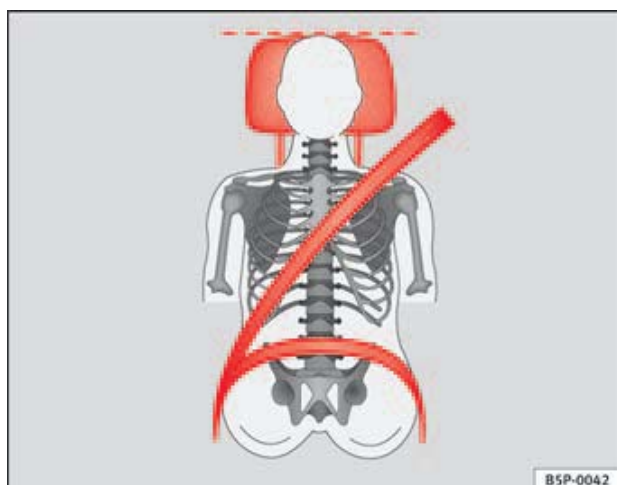
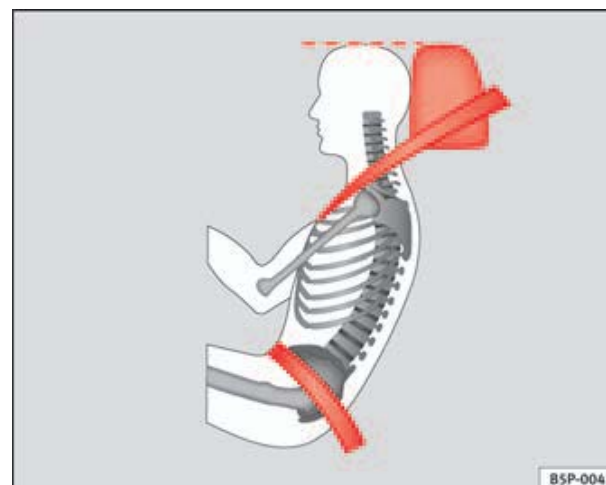

Fig. 87 Viewed from in front: Properly adjusted head restraints and proper belt adjustment
Fig. 88 Viewed from side: Properly adjusted head restraints and proper belt adjustment
- Adjust the head restraint so that its upper edge is at the same level as the top of your head, or as close as possible to the same level as the top of your head and, as a very minimum at eye level ⇒ fig. 87 and ⇒ fig. 88.